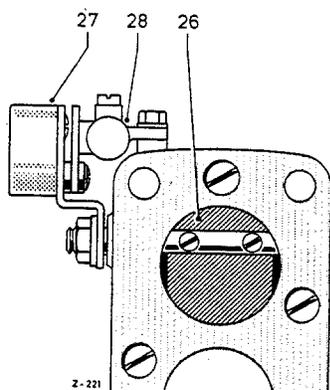

Fig. M 31 S/02
Both stages of the carburetor are combined in one housing (Fig. M 31 S/01). Throttle valve (23) of Stage 1 is located as usual in the lower part of the carburetor, set an angle of  $8^\circ$ . Stage 2, however, has two throttle valves, set an angle of  $17^\circ$ , the one (25) in the center section of the carburetor and the other (26) in the lower section. Throttle valves (23) and (25) of Stages 1 and 2 are coupled together by a linkage. The second throttle valve (26) of Stage 2 is not coupled to the other two. It is operated automatically by the pressure flow. The off-set shaft of the throttle valve is fitted with a lever, bearing a weight (27) (Fig. M 31 S/02).